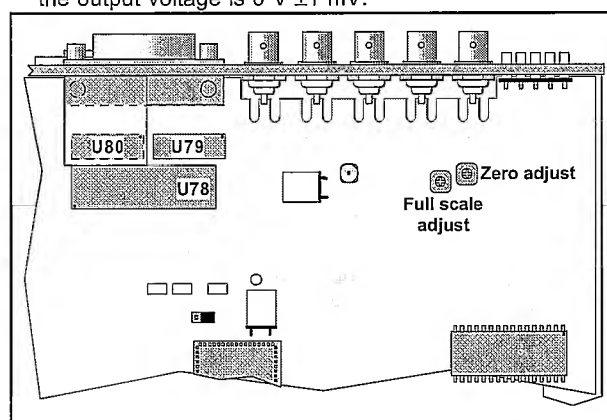

Figure 6-8 Trimmers for the Analog output.
- Connect a stable DC voltage to the A input of the counter via a T-piece. See Figure 6-8.